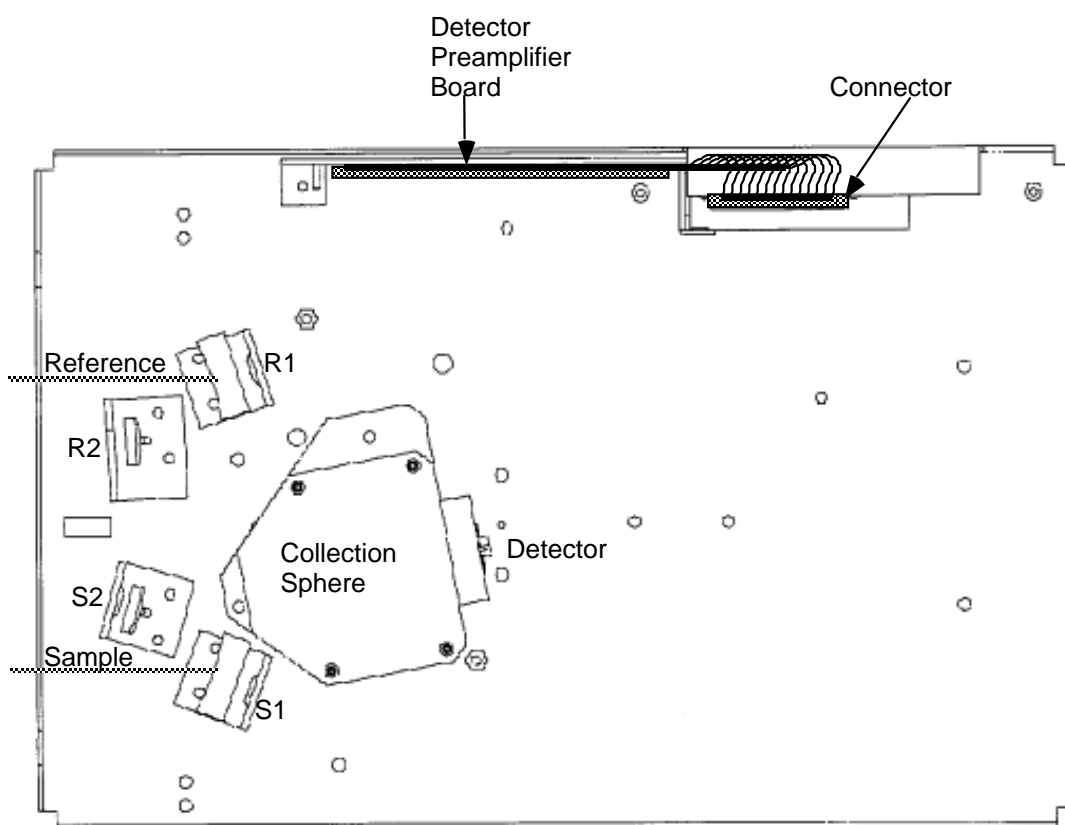

Figure 1. PELA-1050 Baseplate, Top View
2. Position the PELA-1050 as shown below, with the optics on the left. Refer to the baseplate top view depicted in Figure 1.
3. (Use an L-shaped, 2 mm hex wrench to adjust mirrors.) Refer to Figure 1. Adjust mirror S1 so that the sample beam is centered on mirror S2.